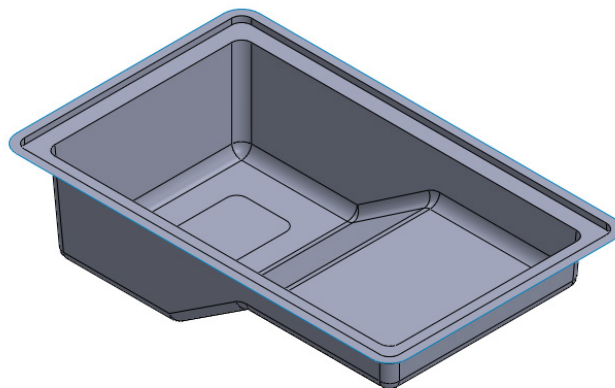

Figure 21-40 Resultant knitted surface after hiding the plastic cover
7. Select the Plastic cover from the **FeatureManager Design Tree** and invoke the shortcut menu. Choose the **Hide Components** option from the shortcut menu. The resultant surface body is displayed in Figure 21-40.